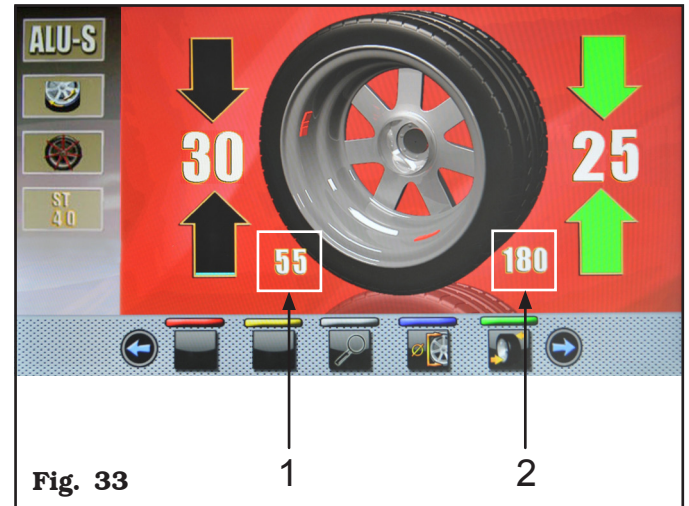

Fig. 33
In this screen page, in addition to the information of the detected unbalance, there are measurements in mm where you must remove the gauge arm (Fig. 33 ref. 1-2) to apply the weights inside the rim.